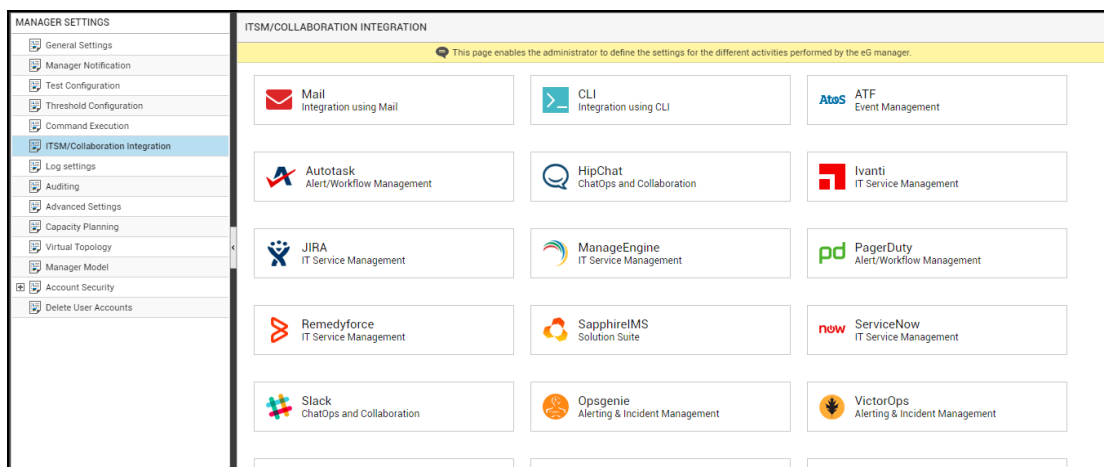

Figure 5.3: Viewing the ITSM/Collaboration tool options
3. Figure 5.3 will then appear. From the **MANAGER SETTINGS** tree in the left panel of Figure 5.3, select the **ITSM/Collaboration Integration** node. The third-party ITSM/Collaboration tools that eG Enterprise can integrate with will be listed in the right panel.
4. Now, click on the **ServiceNow** option in the right panel (see Figure 5.3). A **ServiceNow** section will now appear in the right panel (see Figure 5.4).